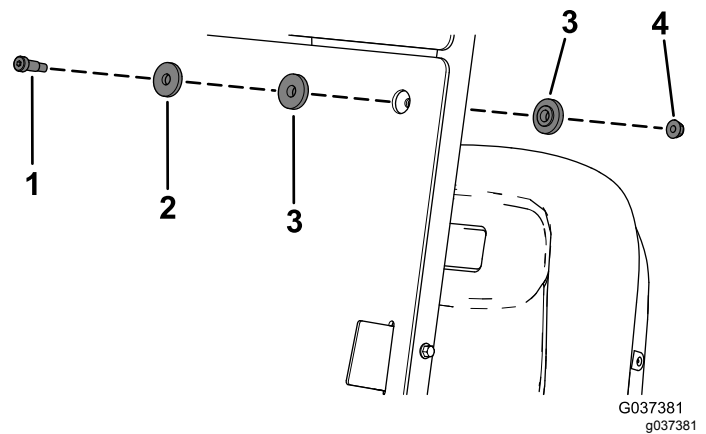

Figure 4
3. Secure the top holes of the bottom windshield to the brackets on the canopy tubes using 2 shoulder screws (5/16 x 1-1/4 inches), 2 backup washers, 4 flange bushings, and 2 flange nuts (5/16 inch) as shown in Figure 4.
5. Secure the rest of the bottom windshield to the brackets on the canopy tubes using 3 shoulder screws (5/16 x 1-1/4 inches), 3 backup washers, 6 flange bushings, and 3 flange nuts (5/16 inch) as shown in Figure 4.